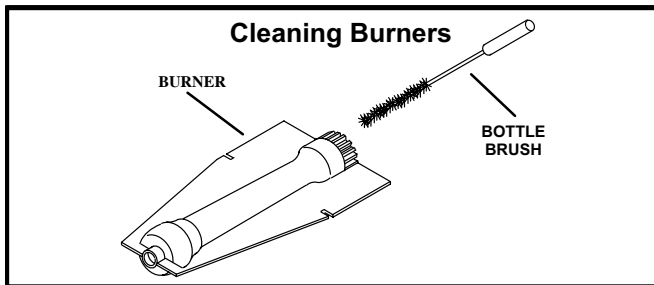

FIGURE 26
- 5 - Clean the inside of each burner with a bottle brush as shown in figure 26.